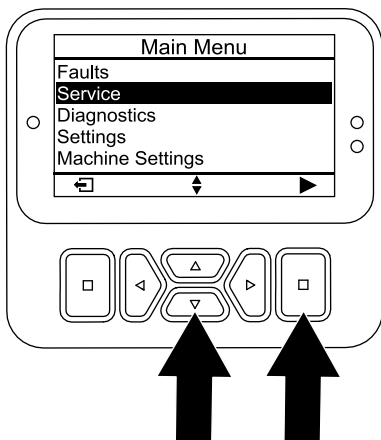

Figure 166
5. Press the down button until the SERVICE option is selected, then press the select button (Figure 166).